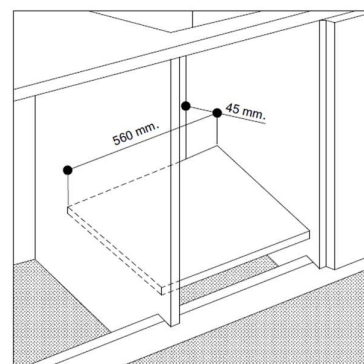

Figure 2
- If the oven rests on a continuous flat surface, there must be an aperture of at least 45 x 560 mm (Figure 2)